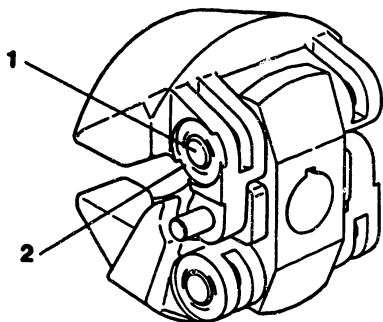

Fig. 47 Flyweight pin section
1. When clearance between flyweight pin and flyweight is excessive due to wear, replace flyweight. (Fig. 47)